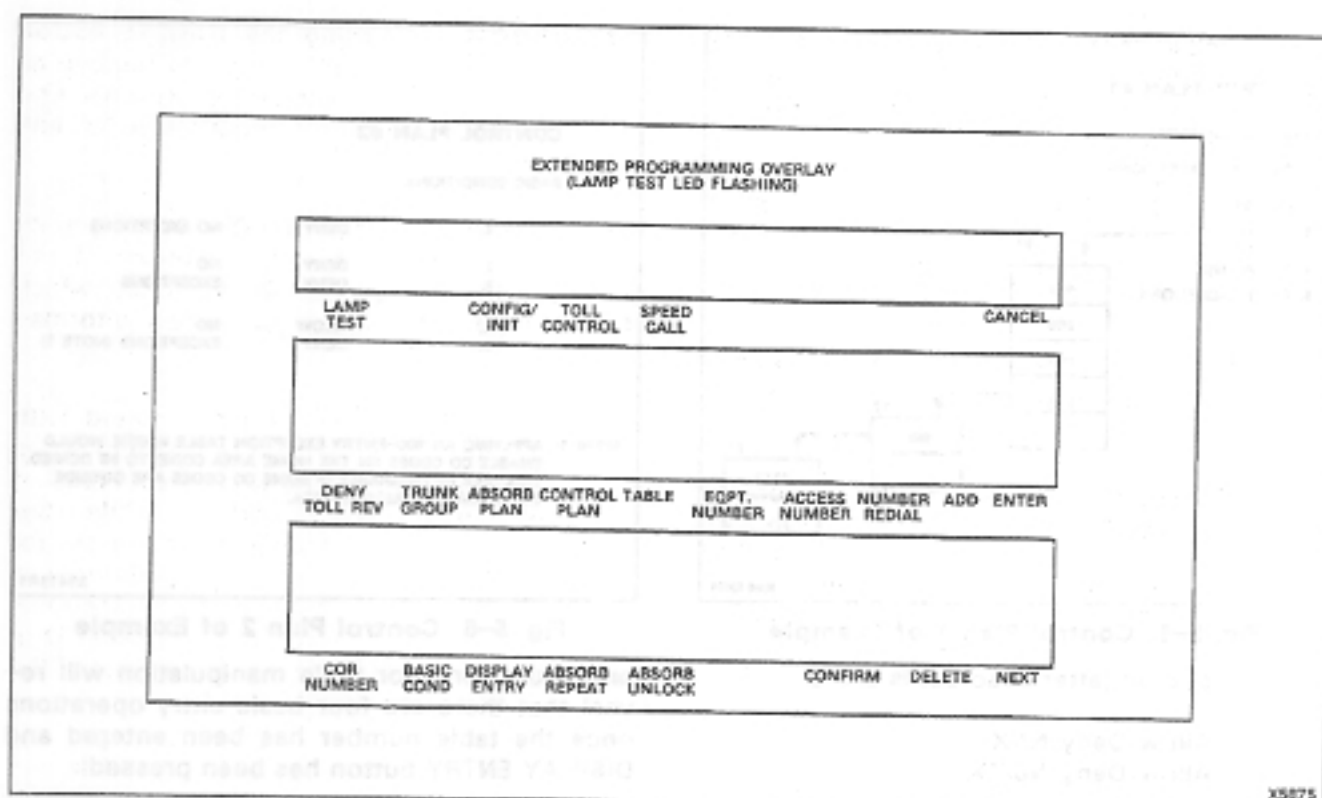

Fig. 7-1 Extended Programming Console Overlay
7.01 The Extended Programming console faceplate layout is shown in Fig. 7-1. The faceplate differs from other programming faceplates, in that certain buttons bear different designations required for Multi-Digit Toll Control. For a brief description of each button and its function, see the appropriate description, as follows: